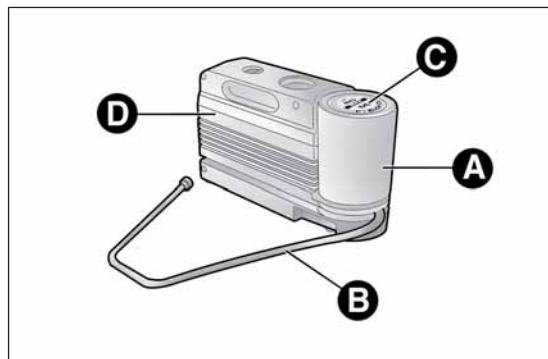

fig. 125
- ☐ a bottle fig. 125 containing sealer and fitted with: filling tube B and adhesive label C with the wording "max. 80 km/h" to be placed in a clearly visible position (e.g. on the dashboard) after repairing the tyre;